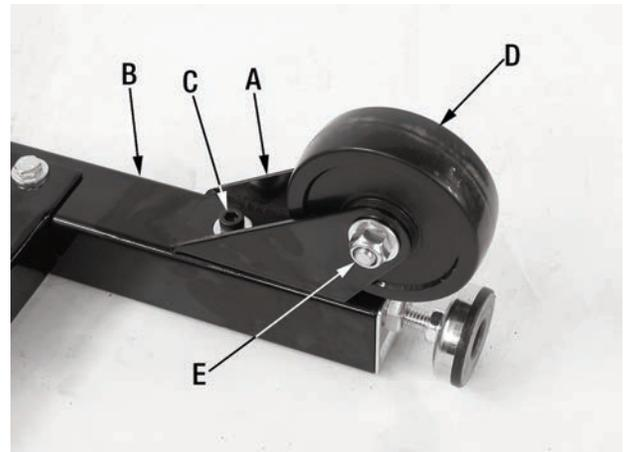

FIGURE 6
- 4) Assemble both wheel mounting brackets (A) Fig.6 to the second leg assembly (B) using 2 cap screws and washers (C) for each bracket.
- 5) Position wheel (D) Fig.6 inside bracket, then secure wheel using a long hex. bolt, 2 washers and a nylon hex. nut (E). Repeat for the second wheel.